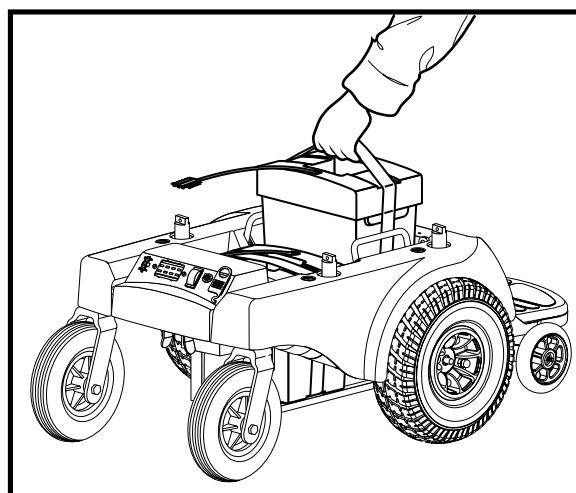

Figure 16. Removing Battery Boxes
6. Lift and remove each battery box. See figure 16.